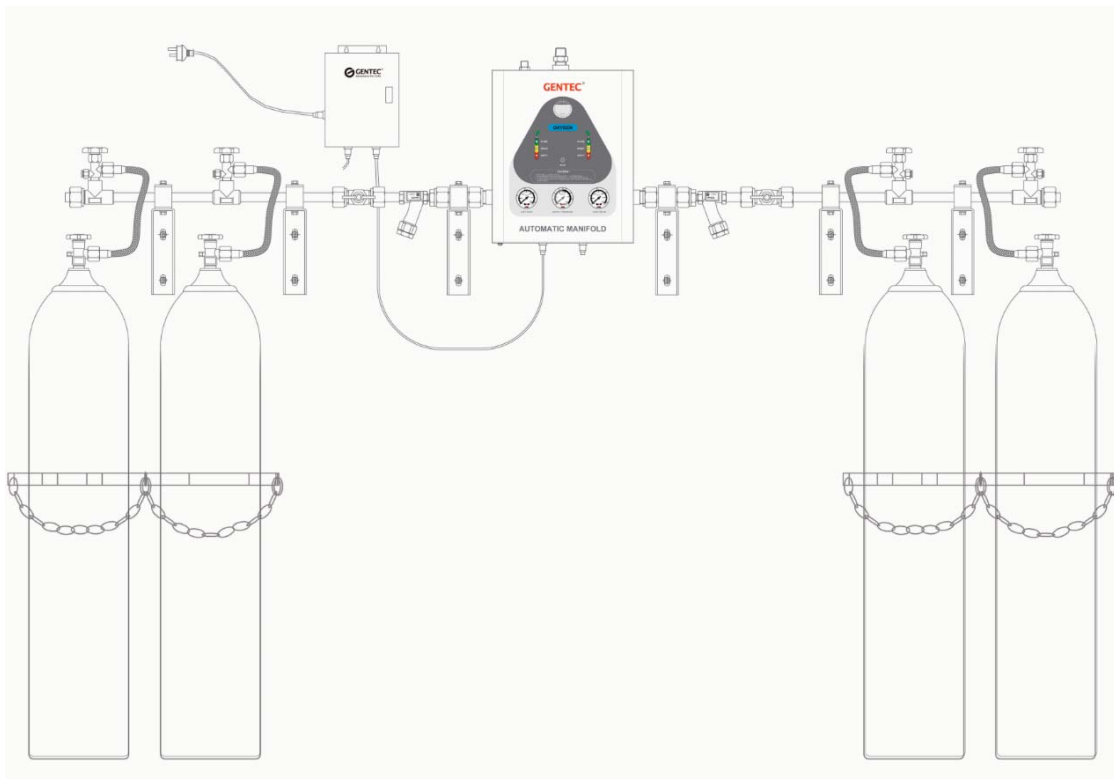

Figure 10
Figure 10 illustrates a typical 2 x 2 GENTEC GM2-Aseries automatic manifold system utilizing 36" length flexible pigtails.
3. Position gas cylinders as shown in Figure 10 and 11. Secure each cylinder to wall or floor stand with chains or straps.